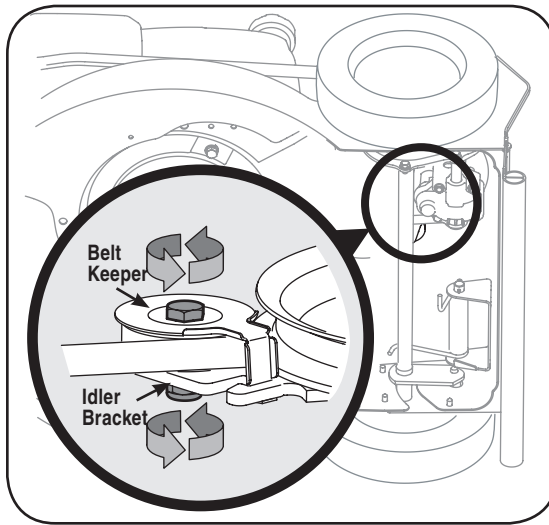

Figure 5-6: Loosen bolt and nut on belt keeper and idler bracket.
8. Loosen the belt keeper bolt and lock nut half a turn. See Figure 5-6.